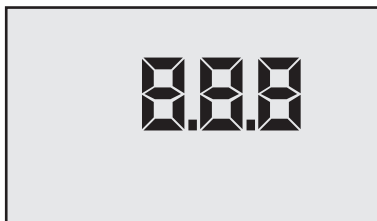

Figure 17
2. Press  key until three numbers are displayed as shown in Figure 17.